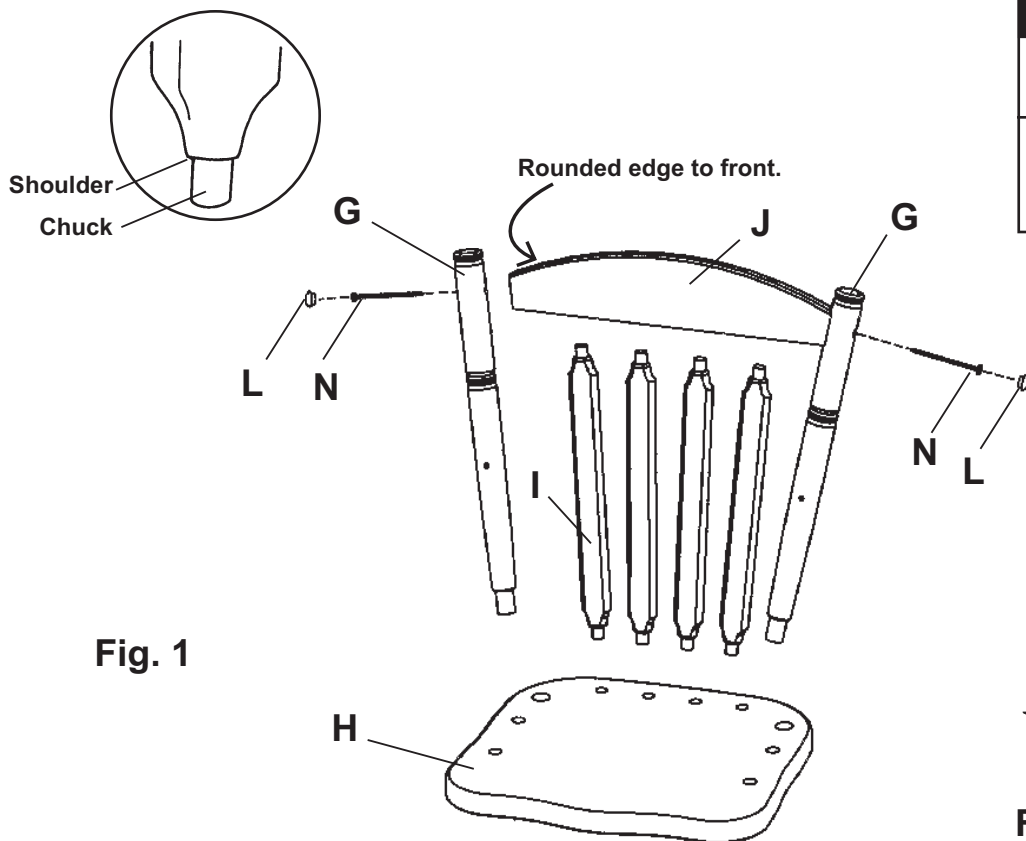

Fig. 1
1. Spread glue in the four center holes in the top of the Seat (H). Insert the larger chucked ends of the four Back Spindles (I) as shown in Figure 1. **Proceed immediately to Step 2 – DO NOT STOP.**
2. Spread a thin coat of glue about 1-1/2" long centered in the grooves on both ends of the Back (J). Put the Back and the Backposts(G) together as shown in Figure 1. Insert a #8 x 2-1/4" Brass Pan Head Screw (N) through the hole in the backpost into the predrilled hole in the back and fasten securely. Quickly wipe off any glue that may be squeezed out. Spread glue thinly but evenly in the four holes in the bottom of the Back (J), (too much glue and it will drip out) and in the two corner holes in the seat. Insert the Backposts into these holes while working the Back Spindles (I) into holes in the back one at a time. It may be necessary to use a rubber mallet or padded hammer to tap these pieces in place. It is important that the shoulders of the backposts and spindles are in contact with the seat.